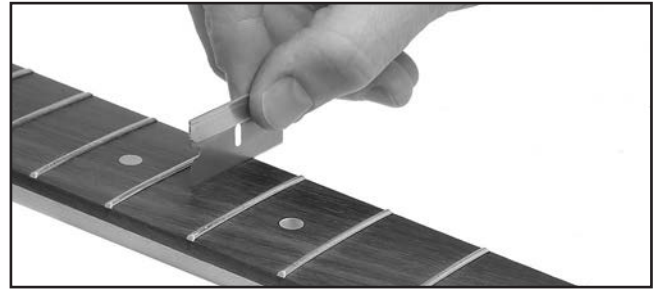

Figure 11. Scraping finish off of the fretboard.
6. Before wet sanding, remove the masking tape from the fretboard and carefully scrape any excess finish off the fretboard with a razor blade or chisel held perpendicular to the surface, as shown in **Figure 11**.